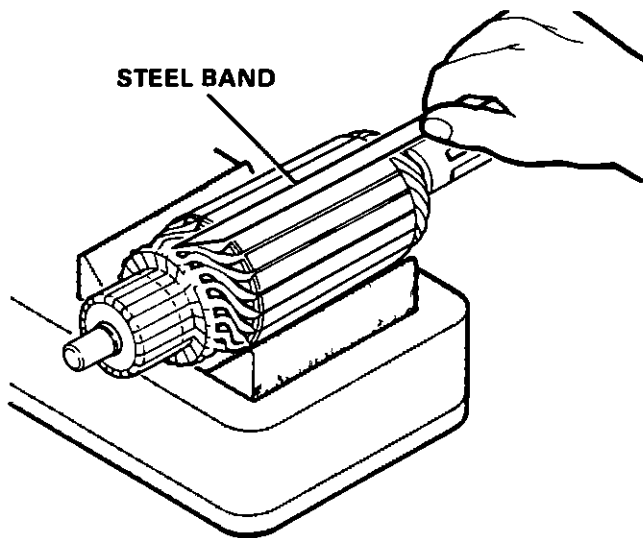

Figure 51 Testing Armature for Short.
- B Hold a steel band parallel with and touching armature core. Turn armature slowly in growler jaws. If steel blade vibrates at any area of the core, area is shorted and armature must be replaced. Figure 51